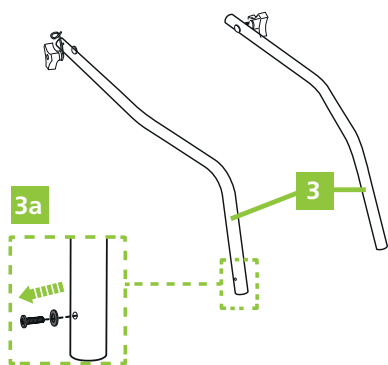

Figure 1
1. Remove the screws (3a) from the lower handlebar (3) and keep them handy (Fig. 1).